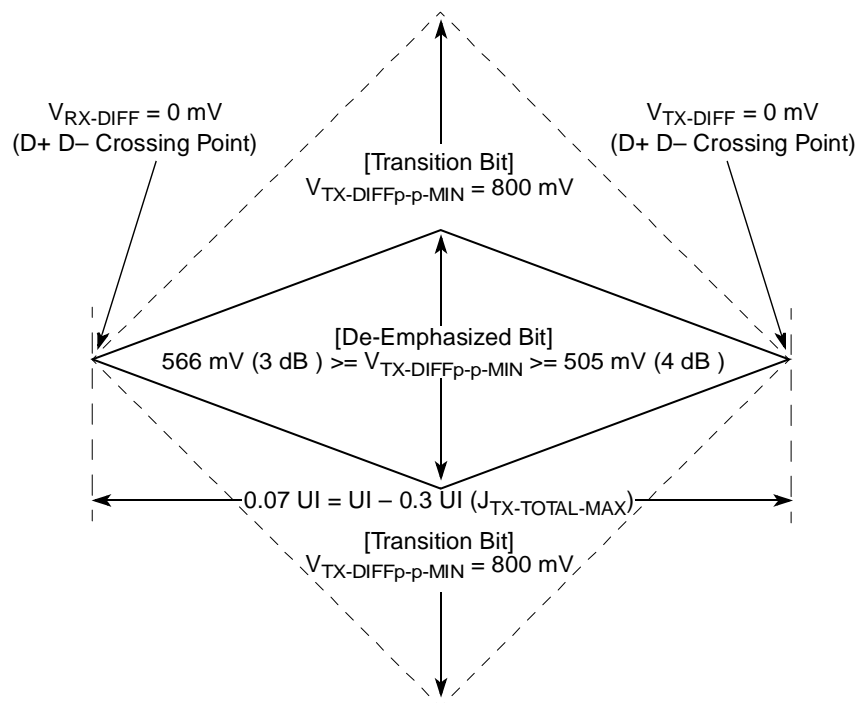
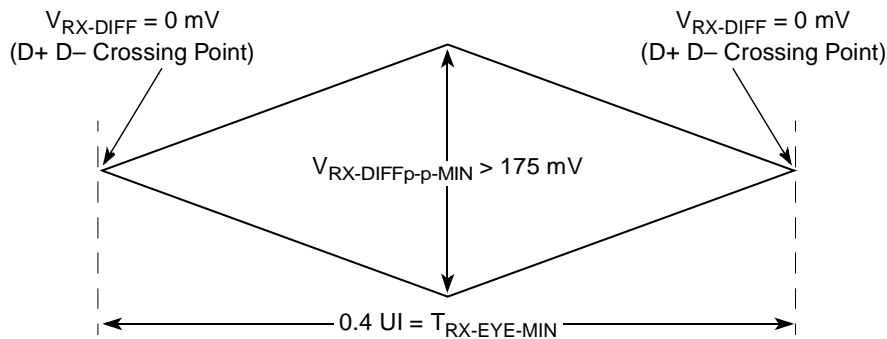
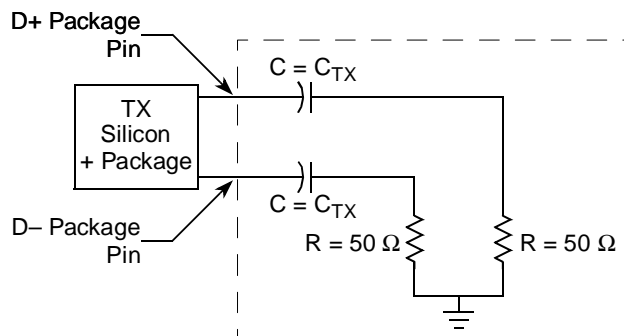

Figure 56. Minimum Transmitter Timing and Voltage Output Compliance Specifications
Figure 57. Minimum Receiver Eye Timing and Voltage Compliance Specification
Figure 58. Compliance Test/Measurement Load
2. Specified at the measurement point into a timing and voltage compliance test load as shown in Figure 58 and measured over any 250 consecutive TX UIs. (Also refer to the transmitter compliance eye diagram shown in Figure 56.)
4. The transmitter input impedance shall result in a differential return loss greater than or equal to 12 dB and a common mode return loss greater than or equal to 6 dB over a frequency range of 50 MHz to 1.25 GHz. This input impedance requirement applies to all valid input levels. The reference impedance for return loss measurements is 50  $\Omega$  to ground for both the D+ and D– line (that is, as measured by a vector network analyzer with 50- $\Omega$  probes—see Figure 58.) Note that the series capacitors  $C_{\text{TX}}$  is optional for the return loss measurement.
5. Measured between 20%–80% at transmitter package pins into a test load as shown in Figure 58 for both  $V_{\text{TX-D+}}$  and  $V_{\text{TX-D-}}$ .
The TX eye diagram in Figure 56 is specified using the passive compliance/test measurement load (see Figure 58) in place of any real PCI Express interconnect +RX component.
2. Specified at the measurement point and measured over any 250 consecutive UIs. The test load in Figure 58 should be used as the RX device when taking measurements (also refer to the receiver compliance eye diagram shown in Figure 57). If the clocks to the RX and TX are not derived from the same reference clock, the TX UI recovered from 3500 consecutive UI must be used as a reference for the eye diagram.
4. The receiver input impedance shall result in a differential return loss greater than or equal to 15 dB with the D+ line biased to 300 mV and the D– line biased to –300 mV and a common mode return loss greater than or equal to 6 dB (no bias required) over a frequency range of 50 MHz to 1.25 GHz. This input impedance requirement applies to all valid input levels. The reference impedance for return loss measurements for is 50  $\Omega$  to ground for both the D+ and D– line (that is, as measured by a vector network analyzer with 50- $\Omega$  probes, see Figure 58). Note that the series capacitors CTX is optional for the return loss measurement.
The RX eye diagram in Figure 57 is specified using the passive compliance/test measurement load (see Figure 58) in place of any real PCI Express RX component.
In general, the minimum receiver eye diagram measured with the compliance/test measurement load (see Figure 58) will be larger than the minimum receiver eye diagram measured over a range of systems at the input receiver of any real PCI Express component. The degraded eye diagram at the input receiver is due to traces internal to the package as well as silicon parasitic characteristics which cause the real PCI Express component to vary in impedance from the compliance/test measurement load. The input receiver eye diagram is implementation specific and is not specified. RX component designer should provide additional margin to adequately compensate for the degraded minimum receiver eye diagram (shown in Figure 57) expected at the input receiver based on some adequate combination of system simulations and the return loss measured looking into the RX package and silicon. The RX eye diagram must be aligned in time using the jitter median to locate the center of the eye diagram.
The reference impedance for return loss measurements is 50 Ω to ground for both the D+ and D– line (that is, as measured by a vector network analyzer with 50-Ω probes, see Figure 57). Note that the series capacitors, CTX, are optional for the return loss measurement.
The AC timing and voltage parameters must be verified at the measurement point, as specified within 0.2 inches of the package pins, into a test/measurement load shown in Figure 58.